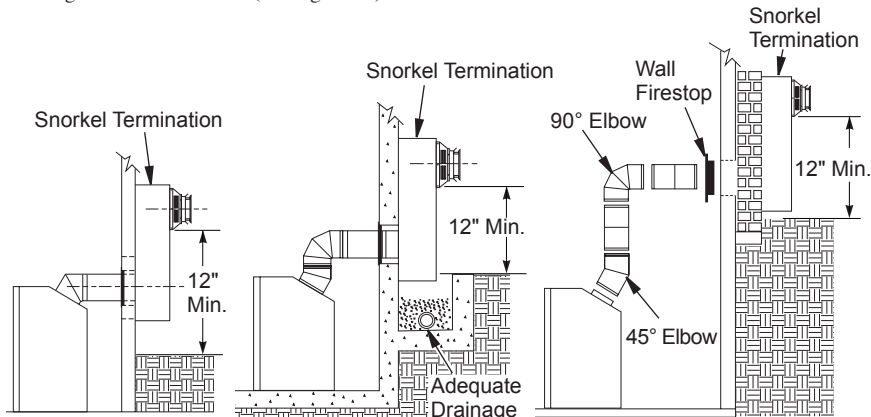

Figure 16 - Snorkel Termination Configurations for Below Ground Installation
- Snorkel terminations are required when minimum clearance to grade cannot be met (see Figure 16 on page 12).
Snorkel terminations are available for installations requiring a vertical rise on the exterior of the building. If installing snorkel termination below grade, you must provide proper drainage to prevent water from entering snorkel termination (see Figure 16). Do not back fill around snorkel termination.